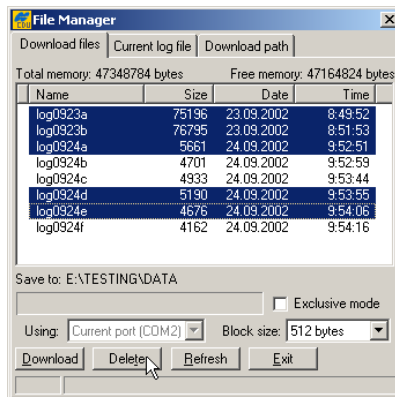

Figure 4-7. Delete Files
3. Click **File** ► **File Manager** and select the file(s) to delete on the *Download files* tab (Figure 4-7).
4. Click **Delete** (Figure 4-7 on page 4-13).